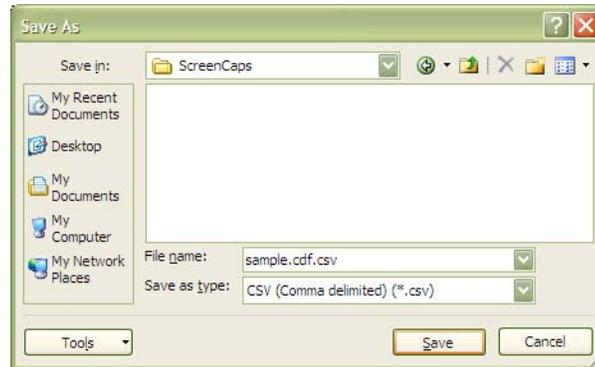

Figure 2.10 Save As window
- When finished entering the required information, save as a “.csv” file type (Figure 2.10).